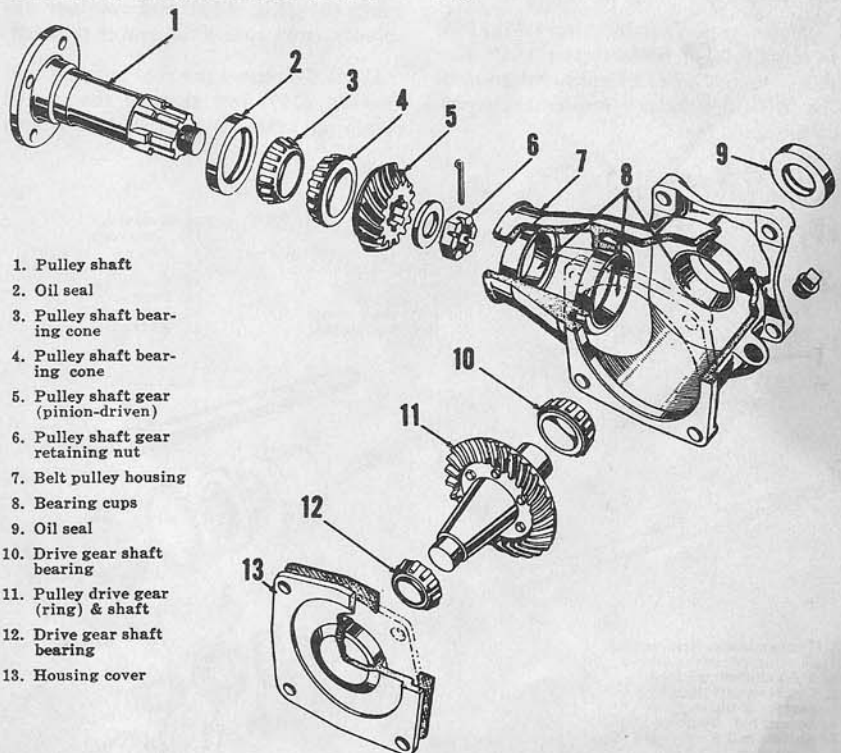

Fig. F49—Belt pulley unit is mounted on the rear face of the rear axle center housing and receives its drive from the pto shaft.
The belt pulley unit, Fig. F49, mounted at the rear of the rear axle center housing, is a self contained drive unit and is driven by the power take-off shaft at a ratio of 1.87 to one. At an engine speed of 2000 rpm, the pulley shaft speed is 1358 rpm. Belt pulley rotation in either direction can be obtained by mounting the unit so that the pulley is either to the right or left of the tractor center line.
105B. To overhaul, proceed as follows: With unit removed from tractor, drain the lubricant and remove housing cover (13—Fig. F49) and gasket. Remove the cotter key and castellated nut (6) from the inner end of the pulley shaft. Nut (6) cannot be removed completely, but must be loosened gradually as pulley shaft (1) is removed. After removing the pulley shaft (1), remove drive shaft and gear (11) out through housing cover opening.